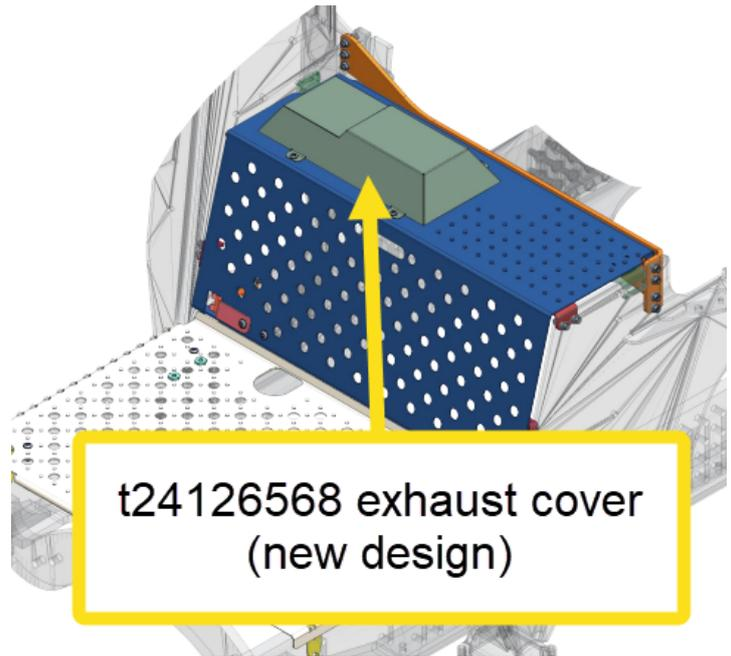

figure 2, exhaust cover
10. Install the new cover t24126568 with the stepped design, as in figure 2.